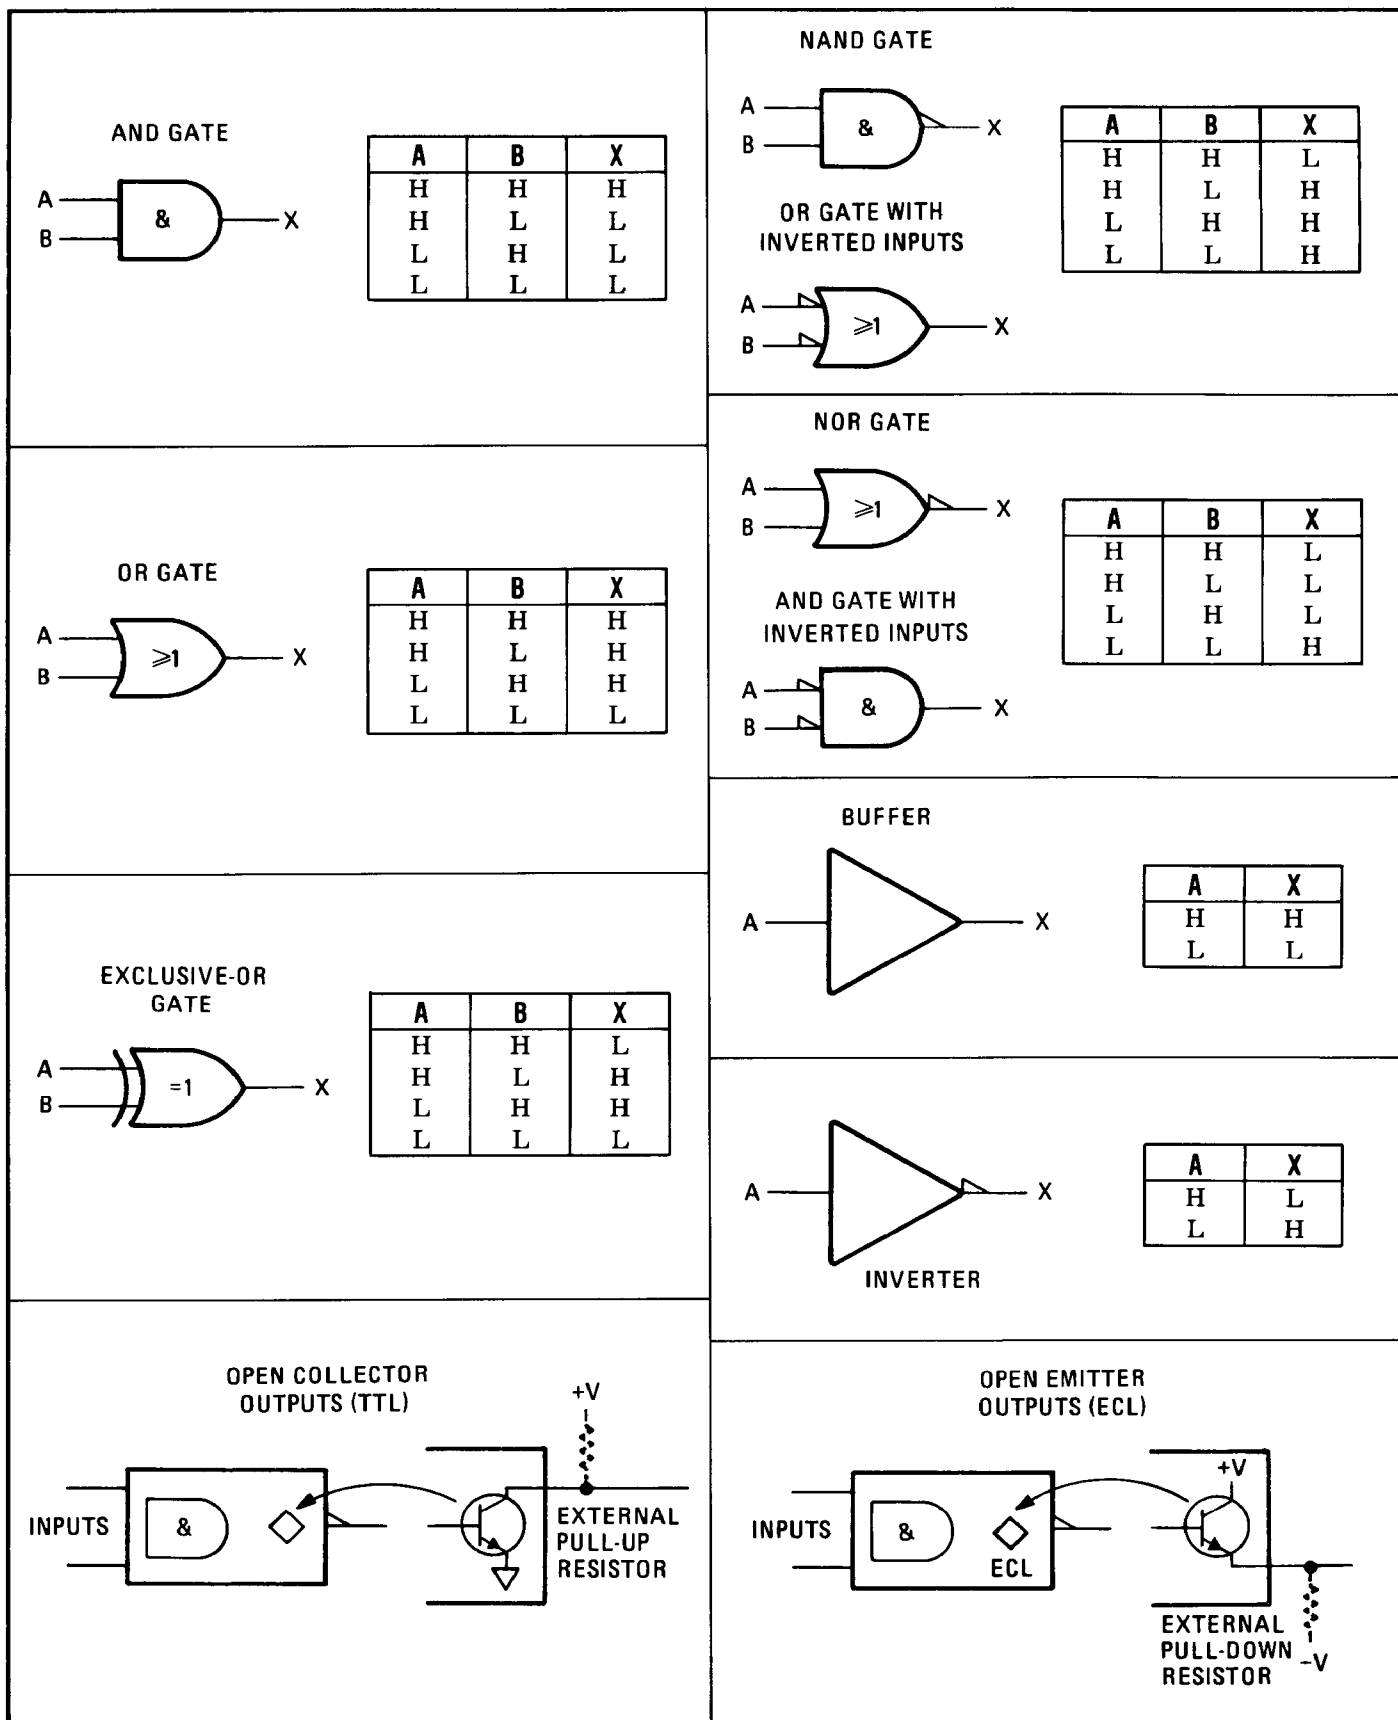
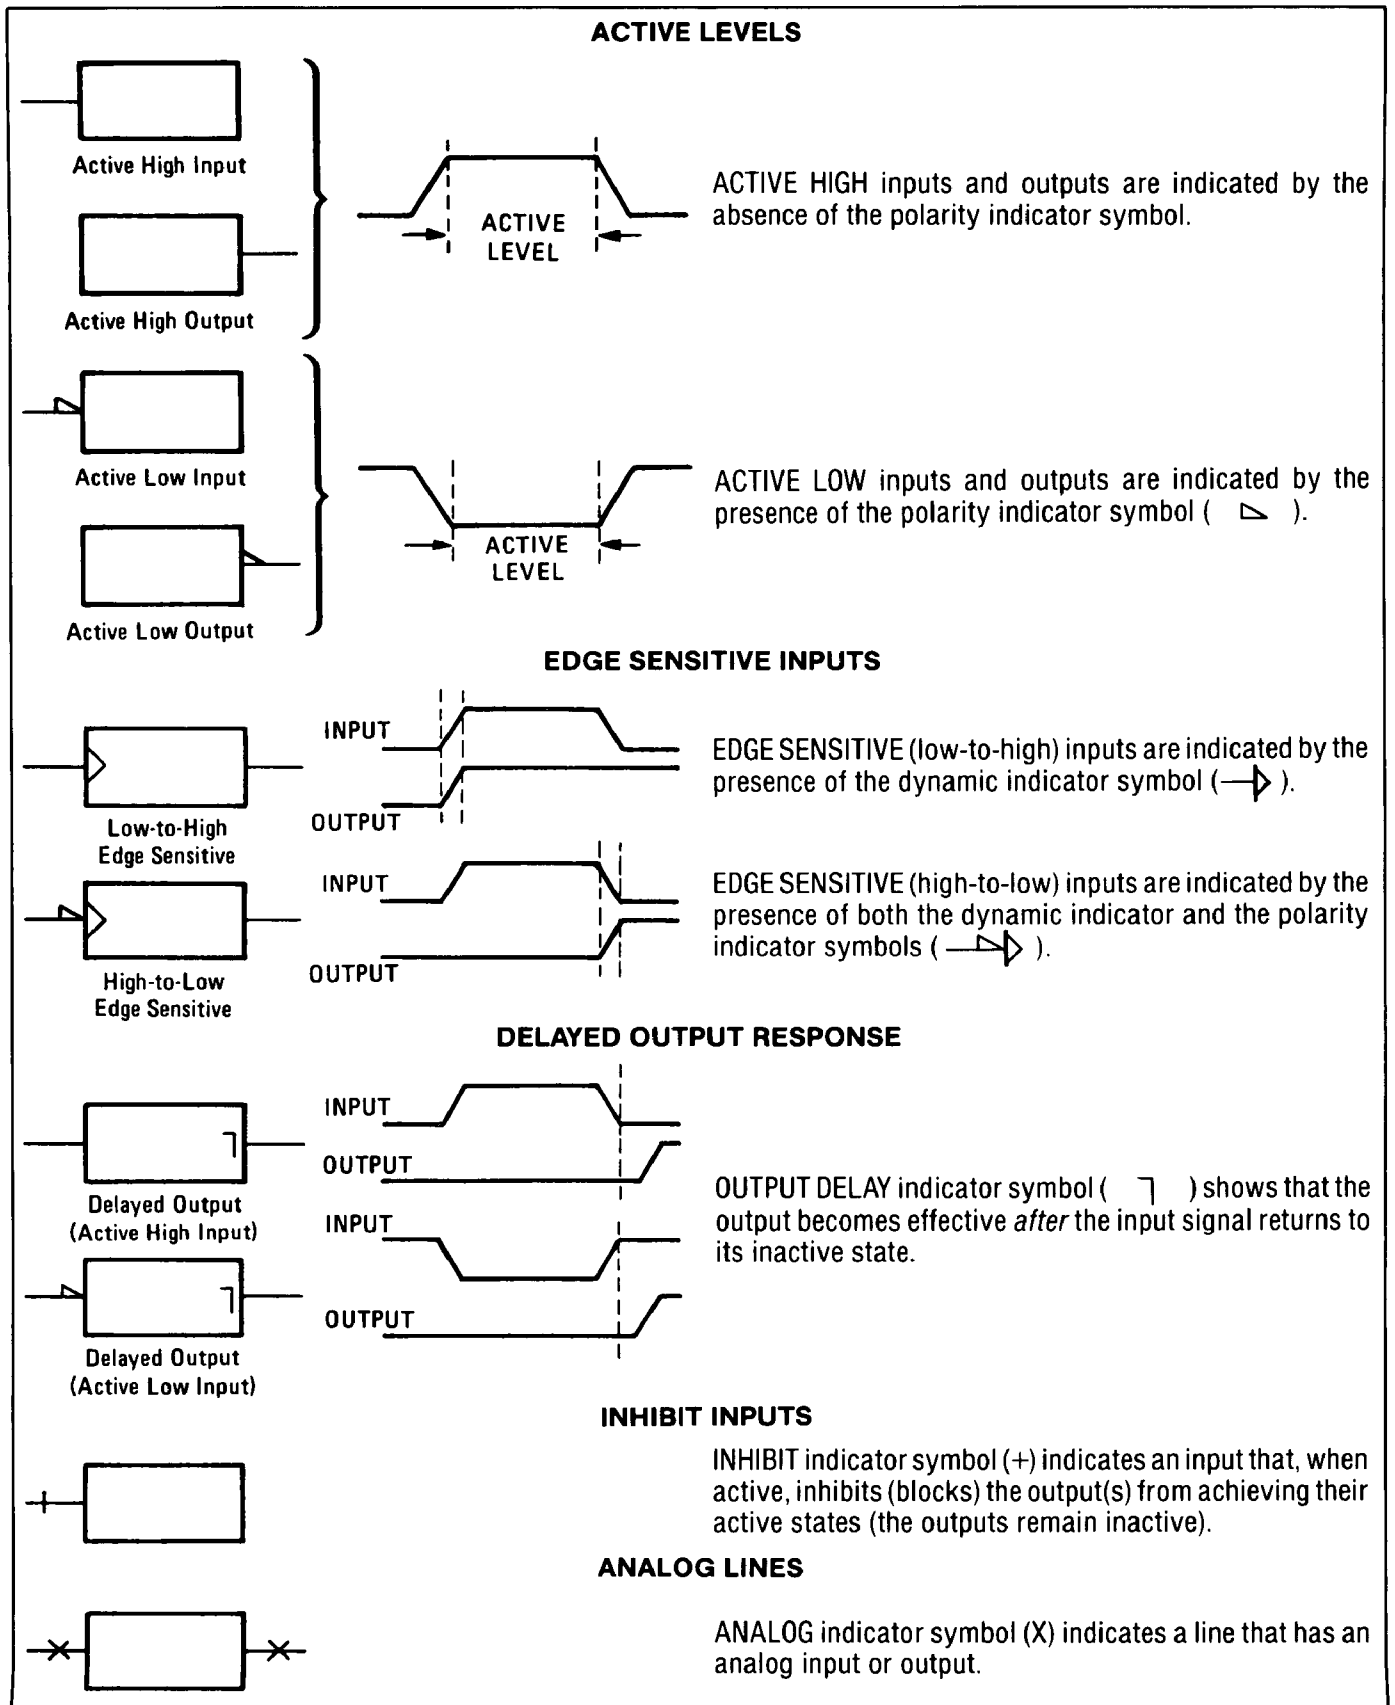

Figure 8-101. Basic Logic Symbols and Qualifiers
Figure 8-102. Indicator Symbols
This section includes a brief description of the basic logic symbols used on the service sheets (see Figure 8-101), a summary of indicator symbols (see Figure 8-102), a discussion of contiguous blocks, control blocks, and dependency notation, and a summary of symbology for some of the more complex devices.
**Qualifiers.** Qualifiers are that portion of a device symbol that denotes the logic function. For example, "&" denotes the AND function. See Figure 8-101 for a summary of the basic logic symbols and their qualifiers.
**Indicator Symbols.** Indicator symbols identify the active state of a device's input or output, as shown in Figure 8-102.